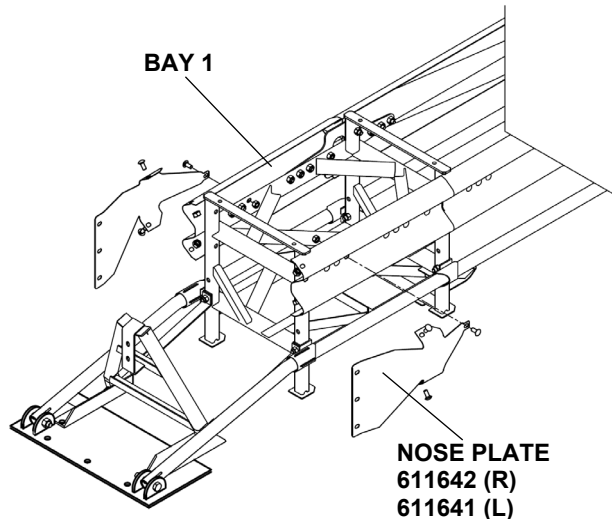

Figure 25
- a. Use Rail Bolts, washers, and nuts to attach the Nose Plates to Bay 1 (Figure 25).